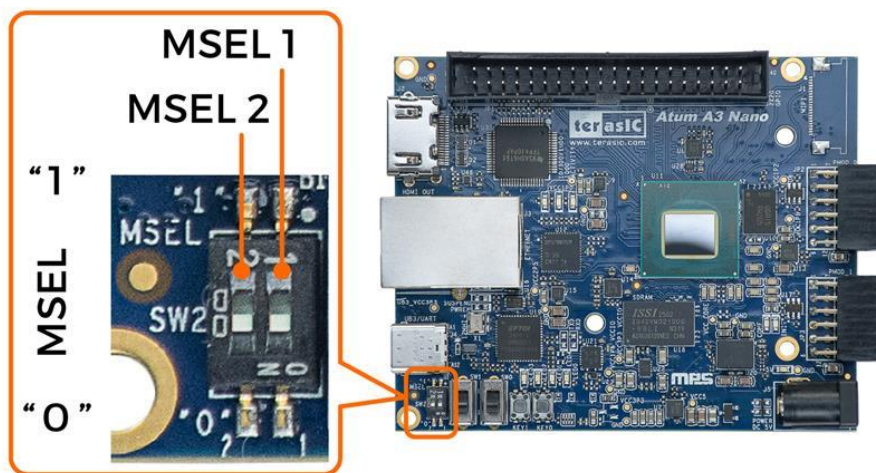

Figure 5-2 SW2 for FPGA Configuration Mode
4. Verify that the MSEL Settings Switch on Atum A3 is set to AS mode (MSEL[2:1] = 2'b00) as shown in **Figure 5-2**.
2. Verify that the MSEL Settings Switch on Atum A3 is set to AS mode (MSEL[2:1] = 2'b00) as shown in **Figure 5-2**.